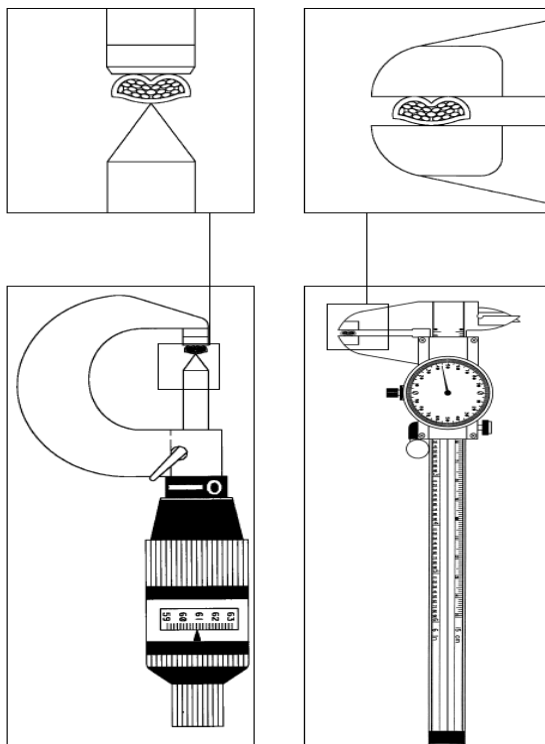

FIGURE 17
3. Place the flat blade of the crimp micrometer (Figure 17) across the center of the dual radii of the conductor crimp. Do not take the measurement near the conductor bell mouth.